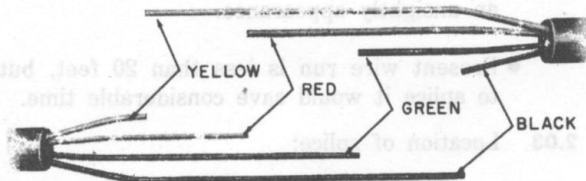

Fig. 1—Jacketed Wire
- (1) Remove outer covering for about 6 inches.
- (2) Cut conductors so position of splices will be staggered (Fig. 1).